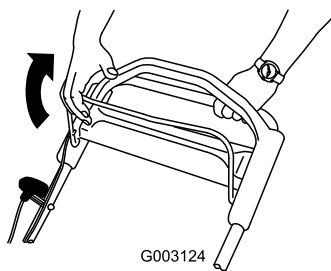

Figure 14
1. Pull the blade-control bar to the handle (Figure 14).